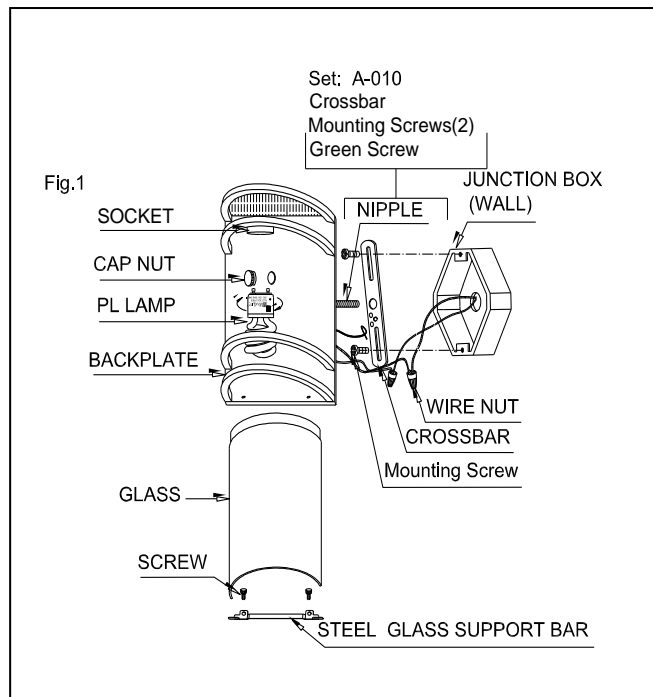

Fig. 2
CONNECTING THE WIRES (Fig.2)
5. Connect the electrical wires as shown in Fig. 2. Make sure that all wire connectors are secured. If your outlet has a ground wire (green or bare copper), connect the fixture's ground wire to it. Otherwise, connect the fixture's ground wire directly to the circular strap using the green screw provided. Tuck the wire connections neatly into the junction box.